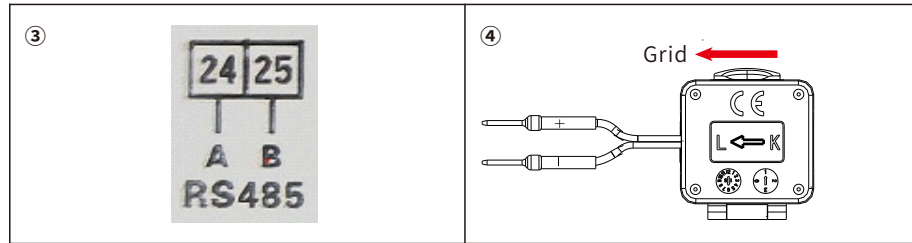

Figure 18: Electric meter
METER crystal slot interface is used for meter communication, and the meter is shown in Figure 18. ①. PIN1 and PIN2 correspond to 24 and 25, as shown in Figure 18. ③. The connection mode is shown in Figure 18.②, and 1 and 2 of the electric meter are connected to the inverter's L and N respectively, 3 and 4 of the electric meter are connected to the grid's L and N respectively. The connection and use of smart meters not only require electrical connections, but also the input of communication addresses on the screen (The specific operations on the screen please refer to 6.3.1>5.Zero Export to Grid>Meter Address).